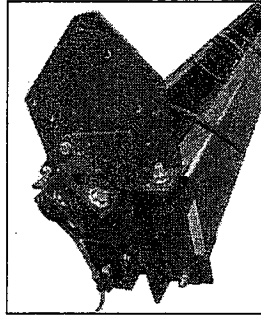

Fig. 12
7. Assemble another cable dolly on the bracket. Then mount them on another column head. (Fig. 12)